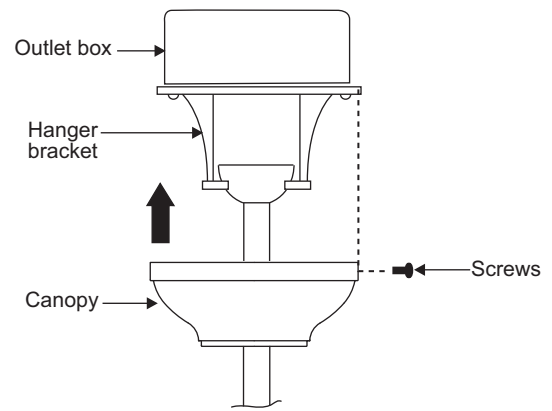

Figure 11
Step 2. Secure the canopy to the hanger bracket with the four canopy mounting screw provided. (Fig. 11)